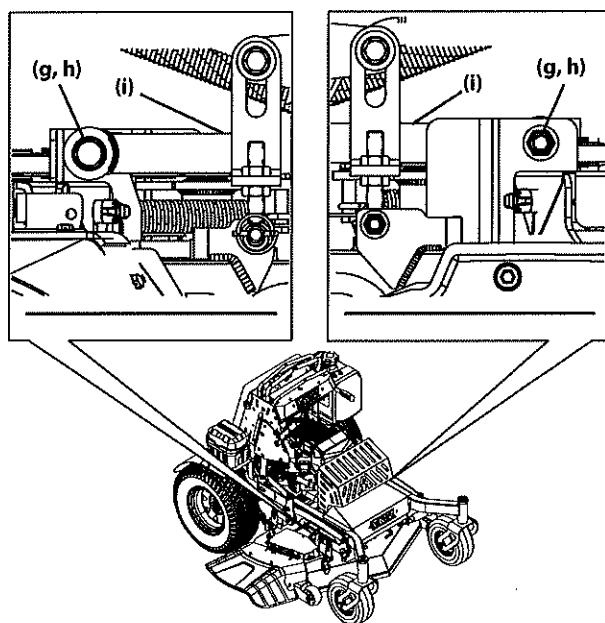

Figure 31
- Remove the hex screws (g) flange lock nuts (h) securing the front deck control rods (i) to the deck. See Figure 31.